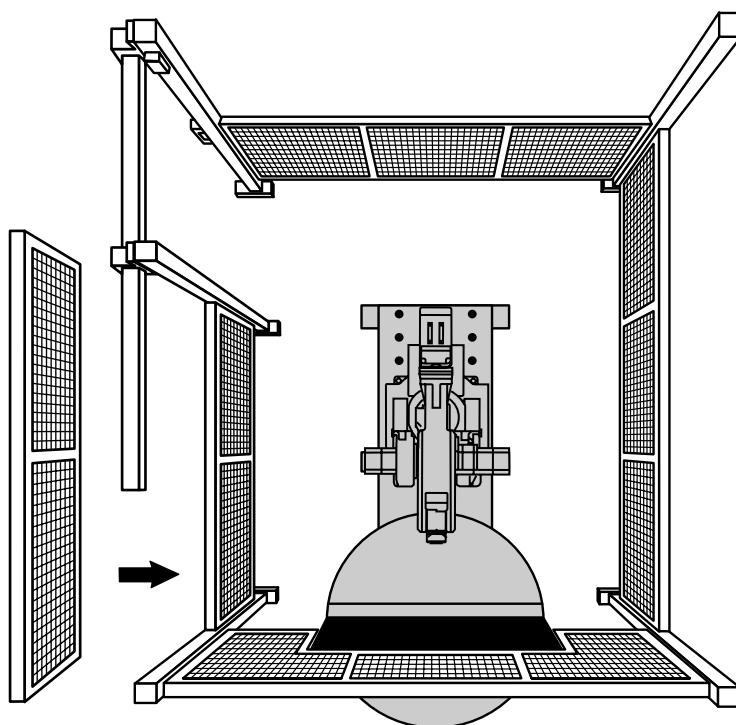

Figure 4-13 Installing the Top Section of the Left Wall
11. Install top door rail across door opening, using clamps provided (see Figure 4-13).